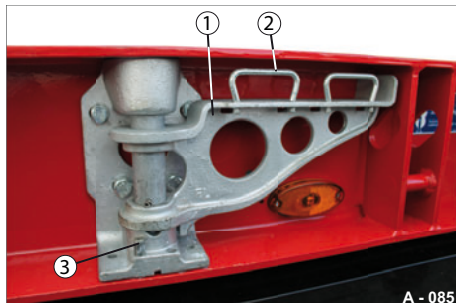

Fig. 76 Folding boom, folded in
- Lift the folding boom (Fig. 76/1 or Fig. 78/1) somewhat and open it outward at the same time.
- Lift the folding boom (Fig. 76/1 or Fig. 78/1) somewhat and open it inwards at the same time - do not let it slam.